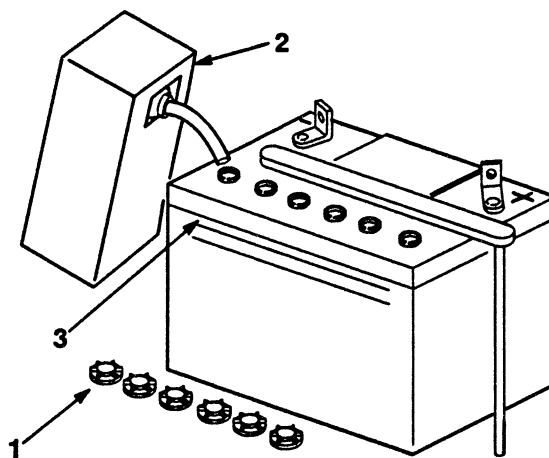

Figure 4
2. Unscrew six filler caps from the battery. Slowly pour electrolyte into each cell until the level is up to the "UPPER" line on the battery case (Fig. 4).
5. Slowly pour electrolyte into each cell until the level is once again up to the "UPPER" line on the battery case (Fig. 4).